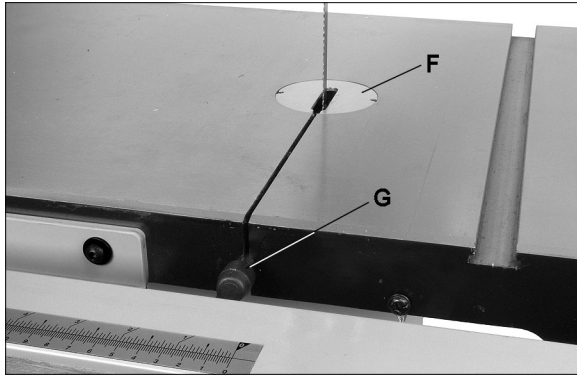

Figure 18
Refer to Figure 18.
2. Remove table insert (F, Figure 18).
3. Pull out table pin (G).